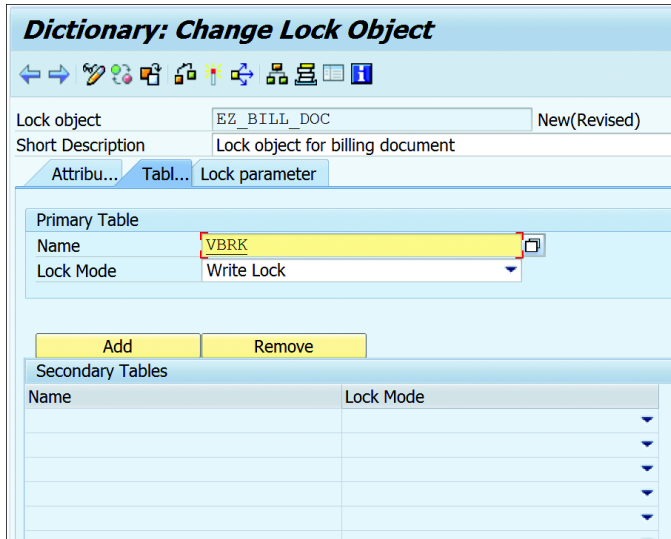

Figure 10.77 Lock Object Maintenance Screen
2. On the **DICTIONARY: CHANGE LOCK OBJECT** screen, select the **TABLES** tab, as shown in Figure 10.77. Enter the **NAME** of the **PRIMARY TABLE** and select the **LOCK MODE**. The lock mode determines how the lock is implemented.